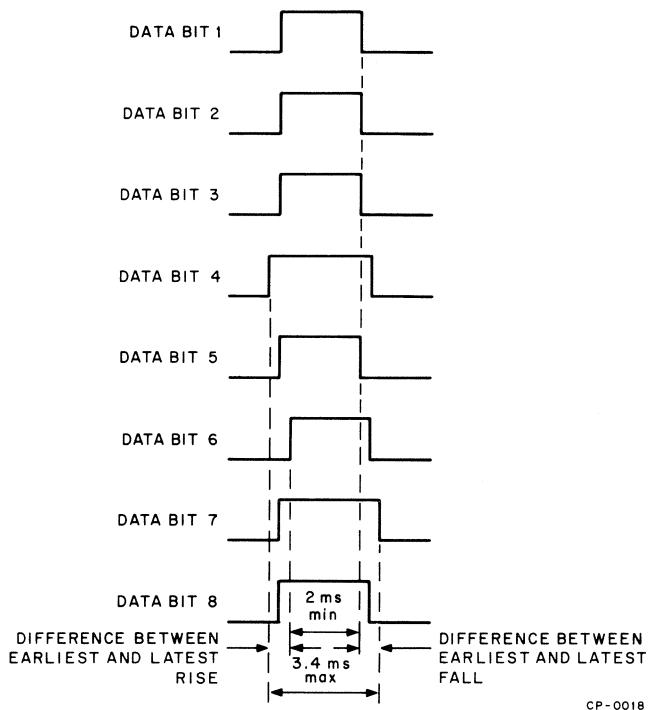

Figure 5-5 Skew Determination Waveforms
- a. Using both channels of scope and internal sync, locate the data pulse having the earliest rise time. Using the rising edge of the data pulse as the sync point, record the difference between the midpoint of its rise and the midpoints of all other data pulse rises. Determine and record the same information for falls. Figure 5-5 shows a typical set of waveforms for determining skew.